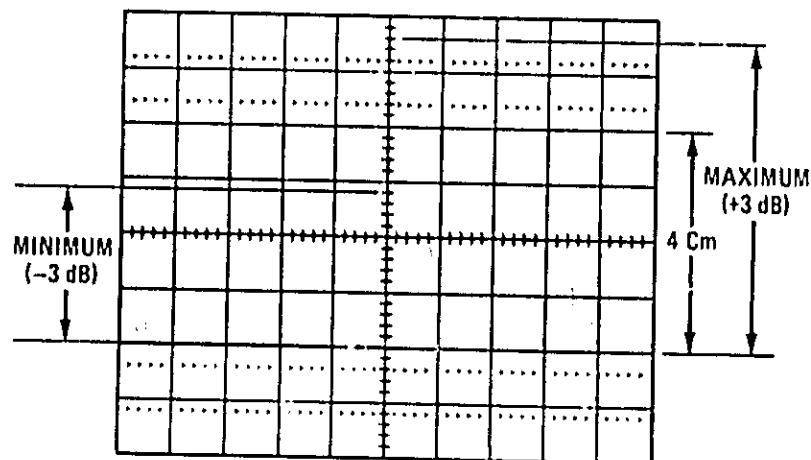

Figure 5-31. FM Flatness Tolerance, DC to 2 MHz
10. Check that  $\pm 3$  dB flatness specification is met between DC and 2 MHz as follows. Manually sweep the function generator frequency between DC and 2 MHz. On the oscilloscope, note maximum and minimum response points (Figure 5-31). Maximum point (+3dB) can be up to 5.6 divisions, and minimum point (-3 dB) can be down to 2.8 divisions.